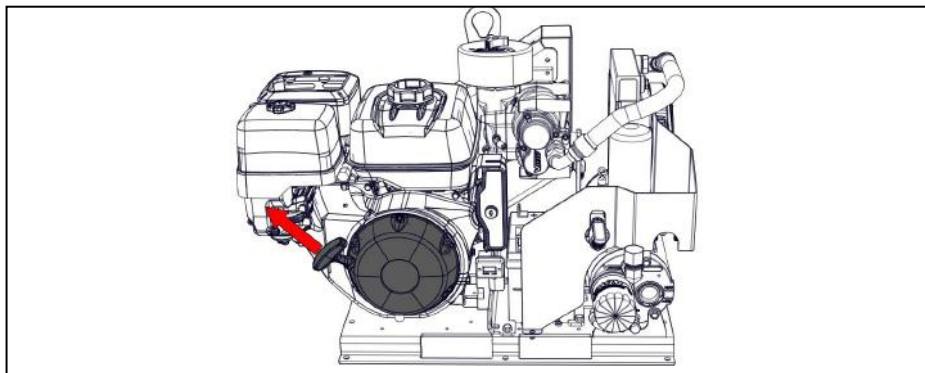

Figure 20 — Key switch
- 6) Pull the starter grip lightly until resistance is felt, then pull briskly in the direction of the arrow. Return the starter grip gently to prevent damage to the starter (Figure 20).